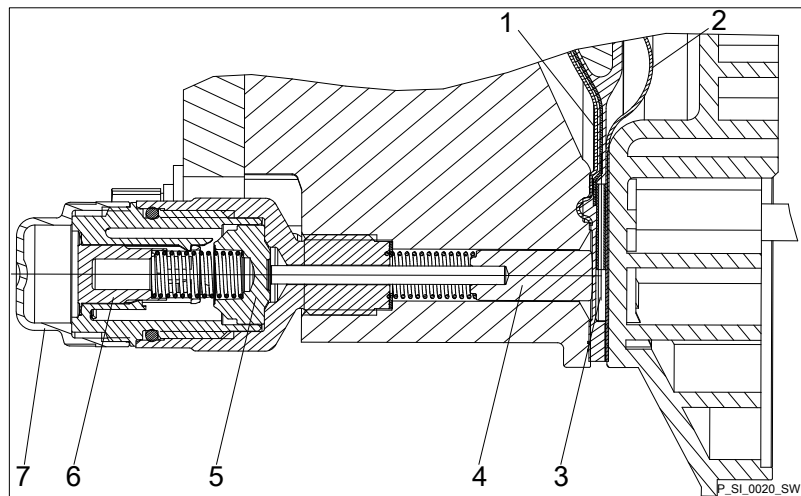

Fig. 24: Section through the Sigma diaphragm rupture warning system ("Visual rupture indicator" design)
2. ▶ If the piston of the diaphragm rupture sensor - see Fig. 24, item 4 - should have become dirty or damp, clean both it and the hole in which it runs.